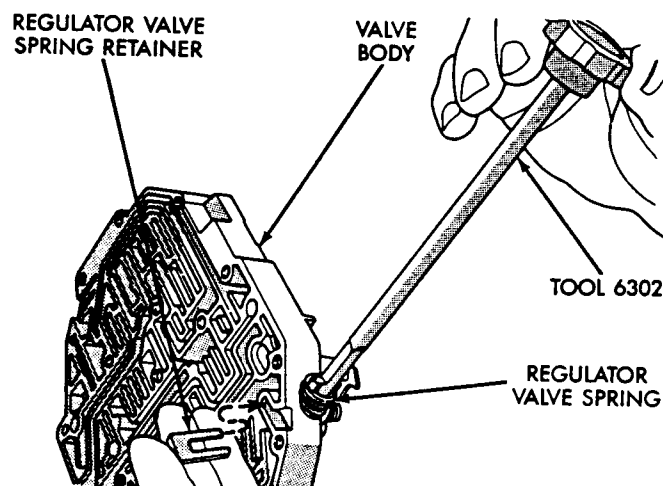

Fig. 15 Remove or Install Retainer Plate
(9) Remove Retainer plate from valve body using special tool 6302 (Fig. 15).